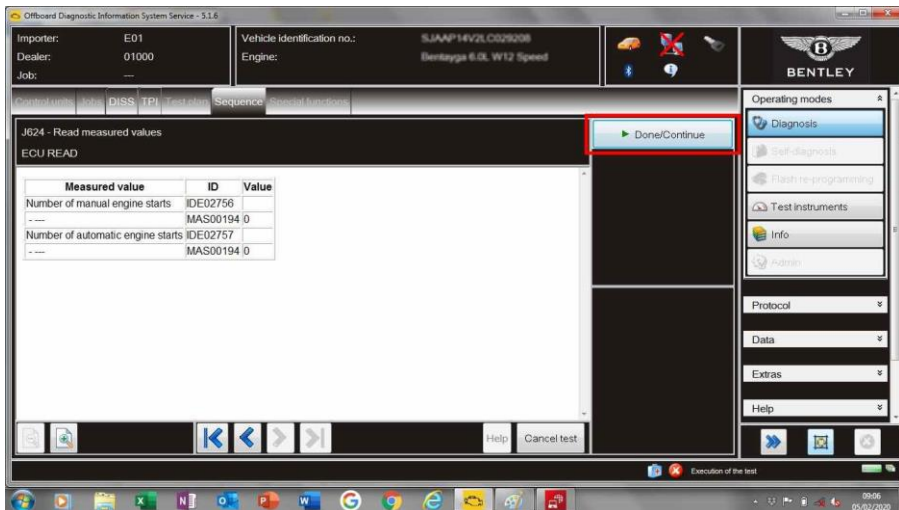

Figure 6.
- Select **"Done/Continue"** and then exit the application – Figure 6.